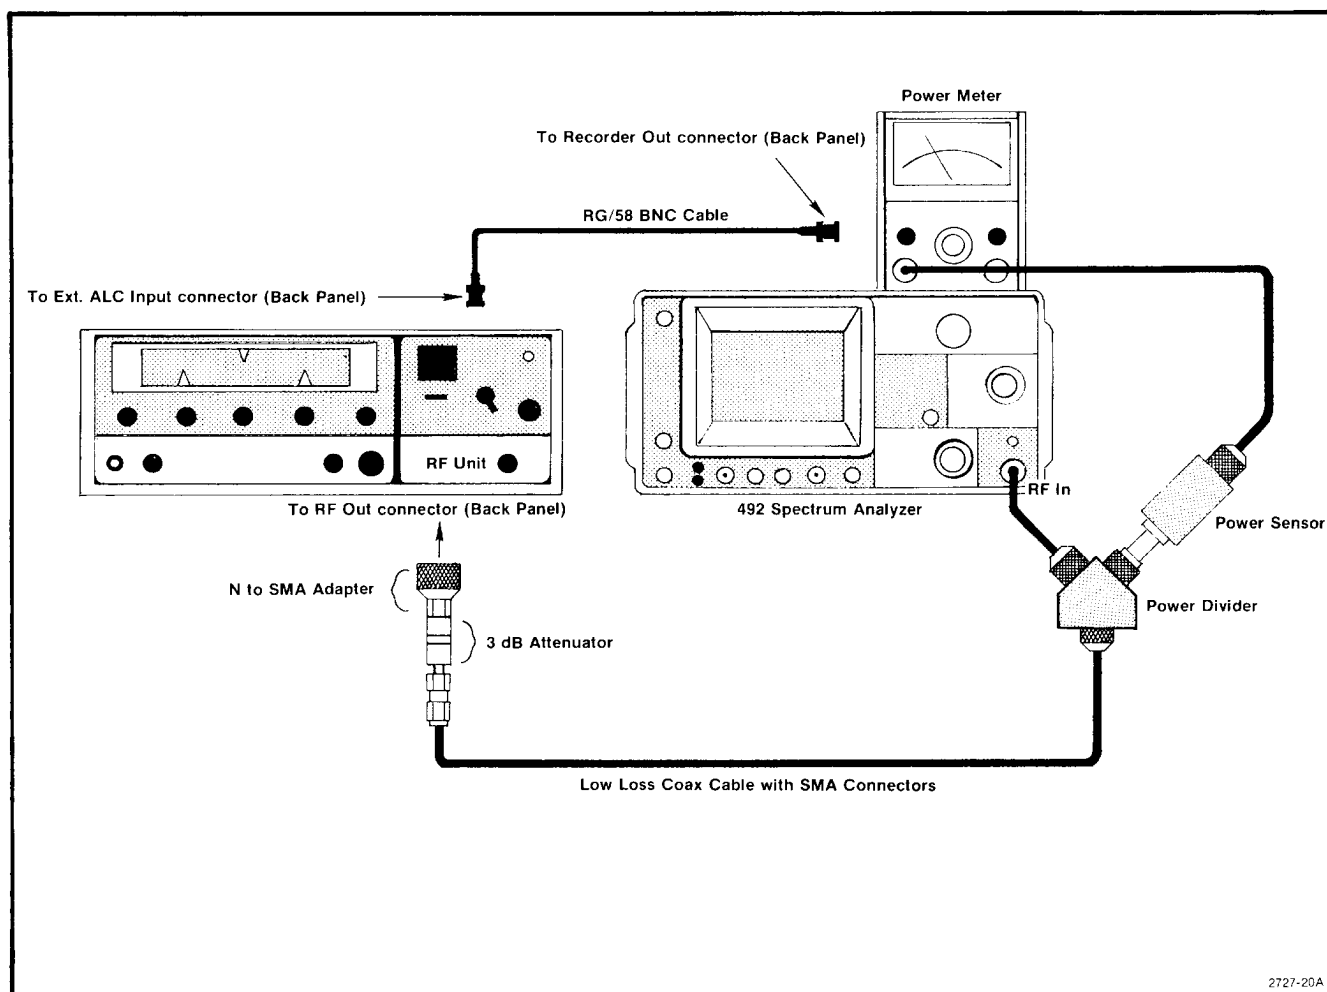

Fig. 3-7. Test equipment setup for measuring 2.0—18.0 GHz frequency response.
k. Replace the 0.01 to 2.4 GHz sweep source with a 2.0 to 18 GHz sweep oscillator. Connect the test equipment as shown in Fig. 3-7. Switch the RF plug-in ALC to Mtr. Connect a coaxial cable between the Recorder Output of the power meter and the RF plug-in Ext ALC Input. Decrease the Power Level to approximately -6 dBm and adjust the Gain for stable operation (output stops oscillating).
k. Replace the 0.01 to 2.4 GHz sweep source with a 2 to 18 GHz sweep oscillator. Connect the test equipment as shown in Fig. 3-7. On the RF plug-in, switch the ALC to Mtr position and connect a coaxial cable between the Recorder Output of the power meter and the Ext ALC Input of the plug-in unit. Decrease the Power Level to approximately -6 dBm; then adjust the Gain for stable operation (output stops oscillating).